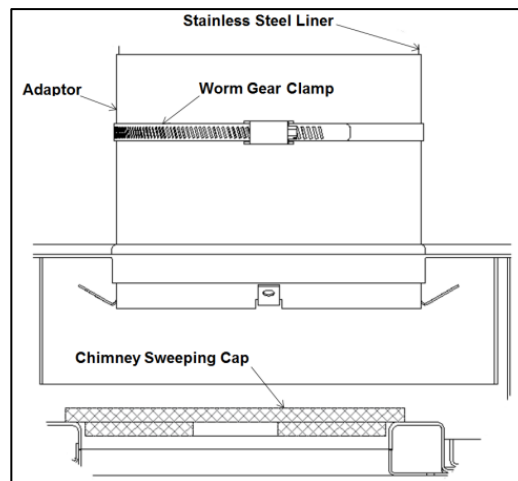

Figure 17: Liner Adaptor Installation
- Align the liner adaptor with the flue of the insert (Figure 17).
- Reposition the chimney sweeping cap back in the chimney sweeping cap hole of the baffle (refer to Figure 17).